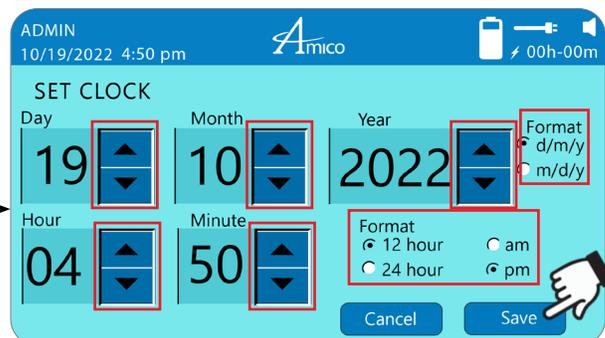

Figure 65
2. Tap **“SAVE”** to finish (Figure 65).